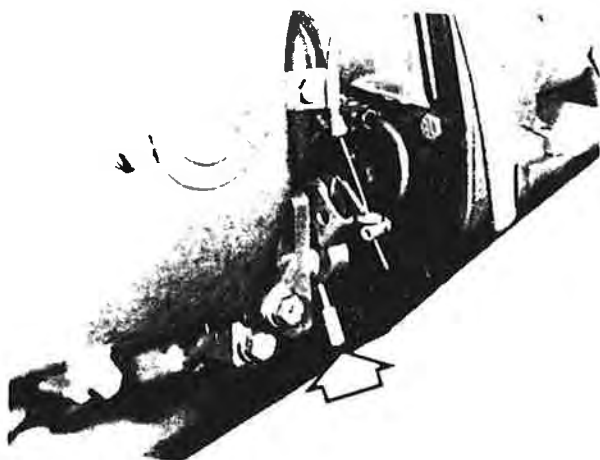
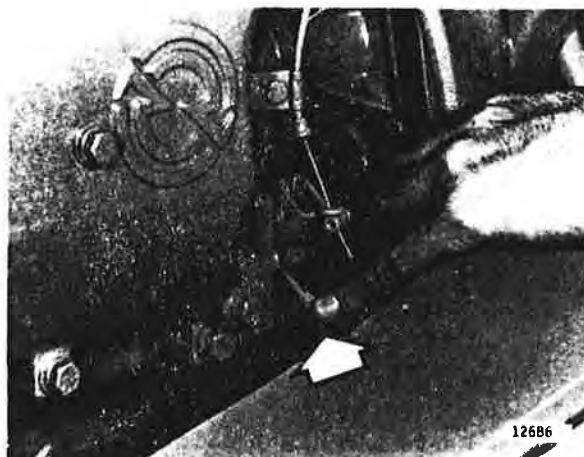

Figure 8
Figure 9
4. Push engine shutdown cable all the way in. Make sure emergency shutdown cable has not been activated (See Figure 8). Reset if necessary (See Figure 9).
If the engine fails to start after four attempts, an inspection should be made to determine the cause. Perhaps at the last shutdown operation the emergency cable was pulled. If so, the trap on the intake manifold must be reset (See Figure 9).